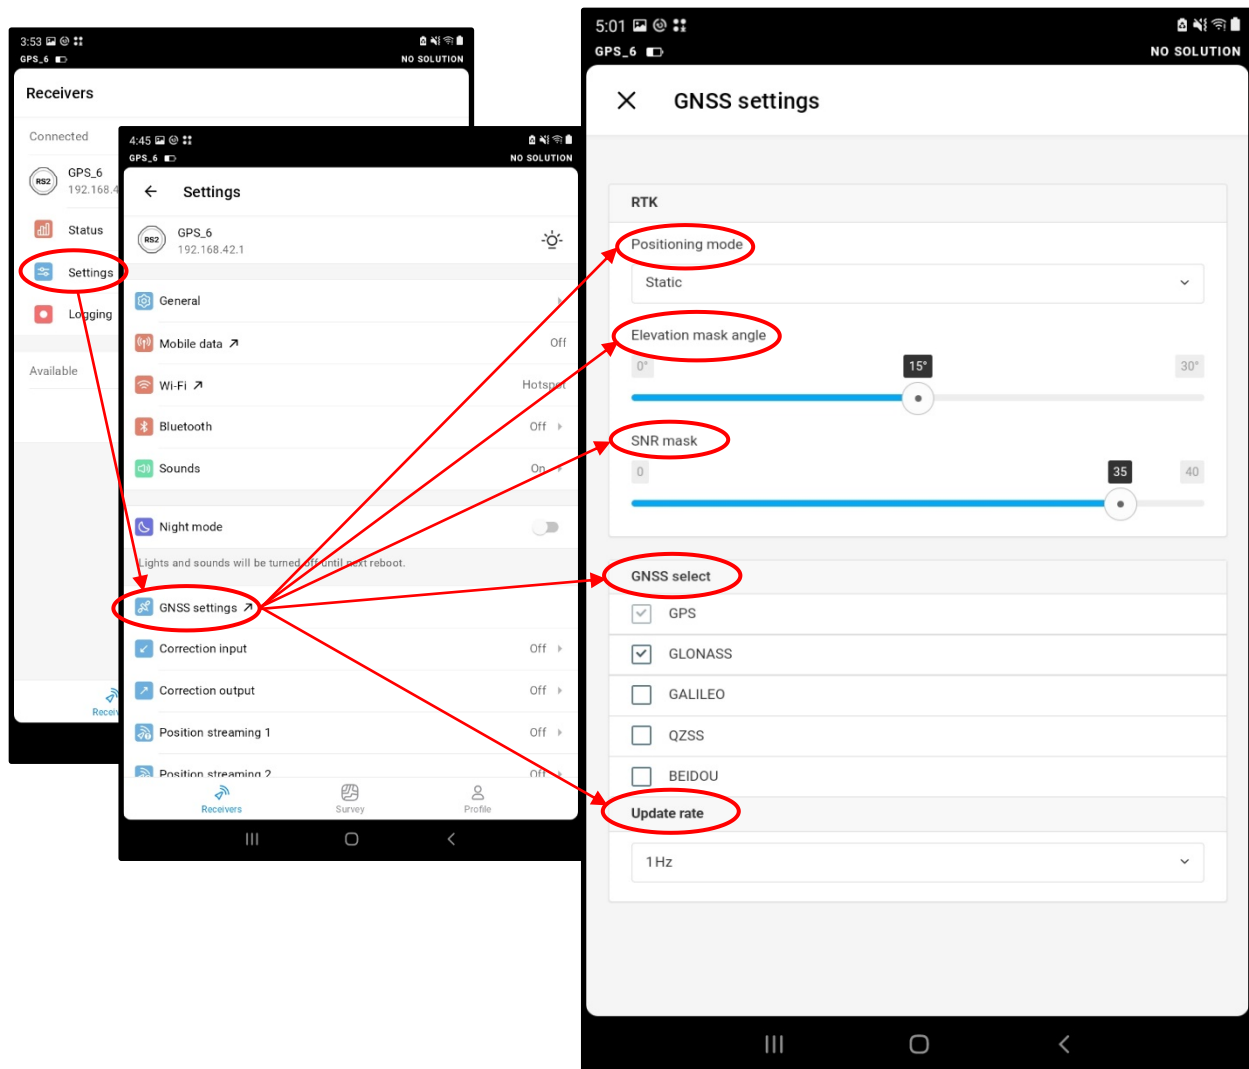

Figure 23. Figure showing the workflow for updating GNSS Settings in the ReachView App with red circles and arrows showing the workflow.
c. Update GNSS Settings (Figure 23)